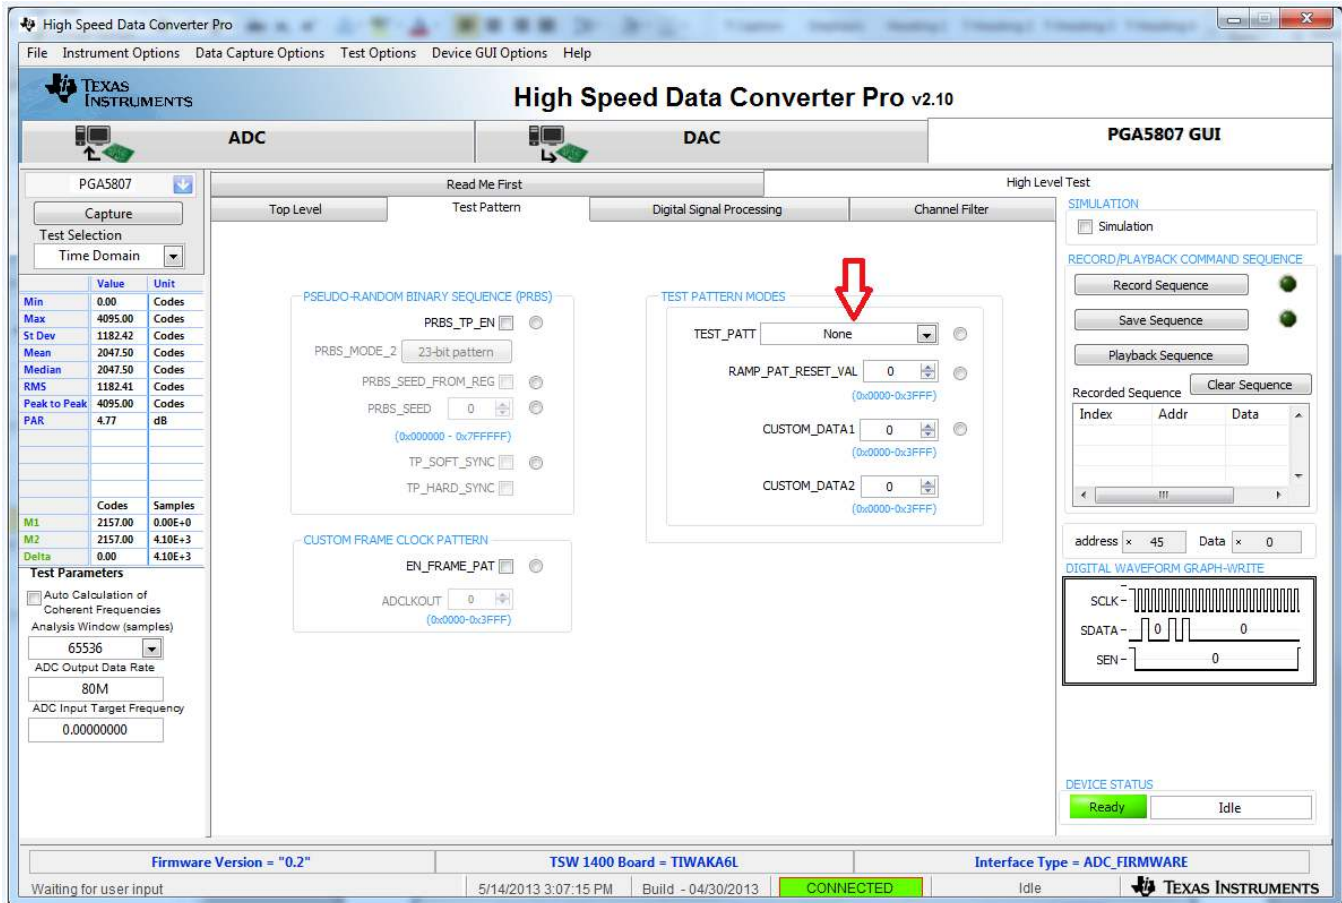

Figure 37. Turn off RAMP Test Pattern
6. Reset the ADS5296 so that the RAMP test pattern is off as shown in Figure 37.